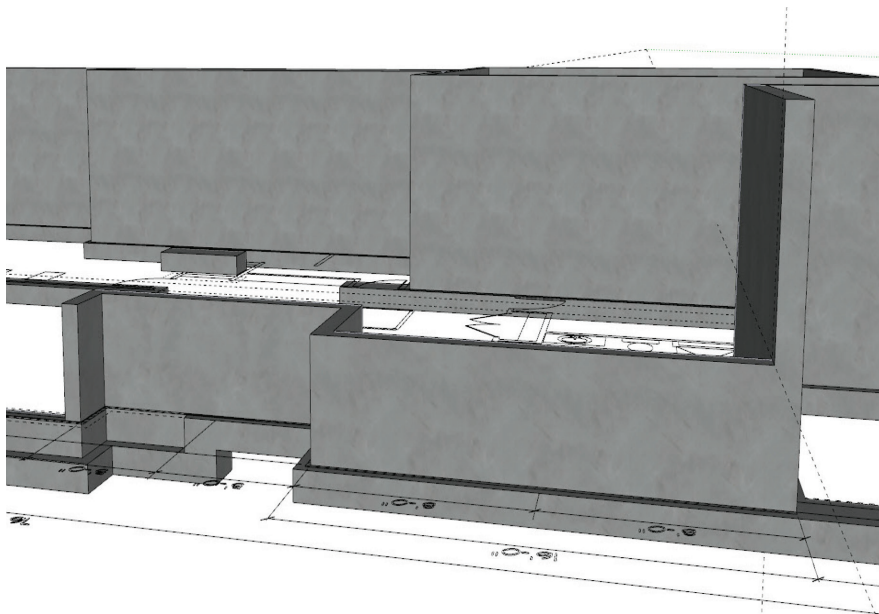

Figure 10.66 Short Foundation Wall 2.
To achieve this, I will edit the end of the 9' foundation wall that currently terminates flush with the exterior of the wall. When I edit this group, I will add a guide (T) that is 3'3" up from the bottom of the foundation wall. Since the new wall is 8" thick, I will add a guide that is 8" in from the end. I then draw a line along both guides to create our face that is 3'3" tall $\times$ 8". As I have done before, I will Push/Pull (P) along the path shown in the above image. The result looks like the image in Figure 10.66.